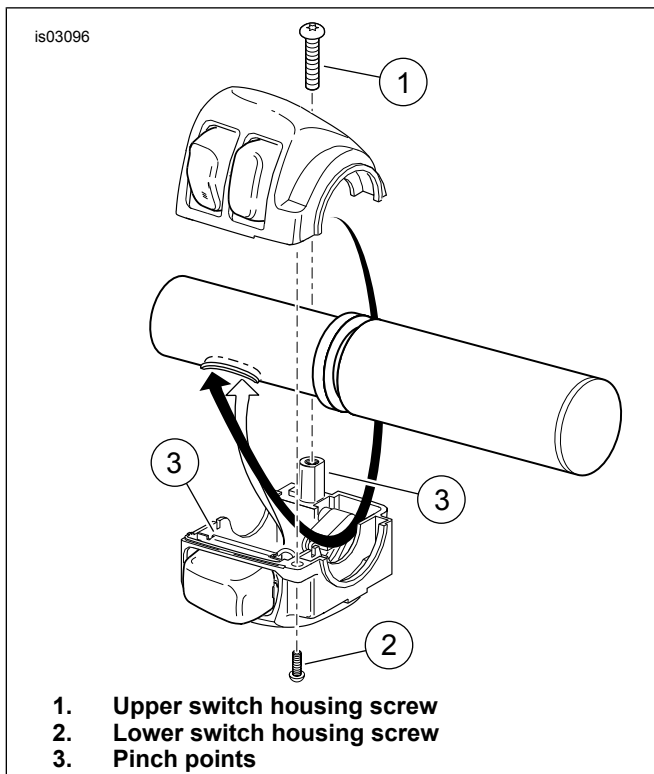

Figure 2. Switch Housing Wire Routing (Right Side Housing Shown)
6. Gently feed twist grip sensor wire bundle into the right side handlebar end. See Figure 2. Route right side switch wire bundle through switch housing as shown. Gently feed wire bundle into right side switch wire hole. Pull bundles through handlebar toward the center. Fit the twist grip sensor index tabs into slots on the end of the handlebar. One index tab and slot are smaller than the other to aid in proper assembly.
10. Route the left side switch wire bundle through the switch housing as shown in Figure 2 for the right side wiring. Gently feed the wire bundle into the left side switch wire hole. Pull the bundle down through the new handlebar and toward the center of the bar.